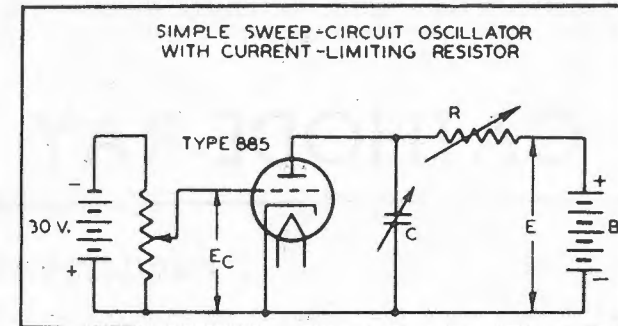

Fig. 12.
A "basic" sweep-circuit oscillator, using the Radiotron 885, is shown in Fig. 12. Condenser (C) is charged by battery (B) through resistance (R). The grid-bias voltage (Ec) prevents current flow through the tube until the voltage across the condenser and plate circuit reaches the breakdown value, where the plate-cathode conductivity of the valve becomes high. At this point, the condenser discharges through the tube and loses its potential. As soon as the condenser voltage drops below the ionisation potential of the tube, the negative grid attracts any positive ions to itself and drives any electrons to the other tube elements, thus de-ionizing the space between cathode and plate. During the de-ionization period, the discharge current ceases to flow, the grid resumes control, and the condenser starts to recharge for a new cycle.